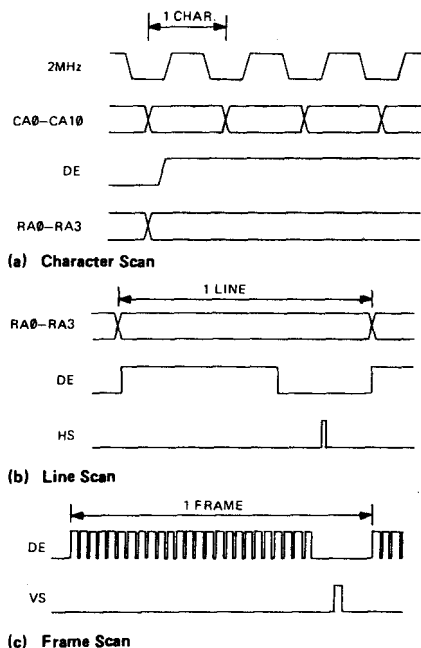

Figure 8. VDU Controller Scan Signals
The CA0—CA10 signals are connected via Multiplexers IC5, IC6 and IC7 to the RAM address inputs. The RA0—RA3 signals are connected directly to the Character Generator ROM 1013. The RA0—RA3 signals are all set to '0' at the beginning of the first scan line of a character row. The CA0—CA10 signals are set to the first character address in the row and then incremented at 2MHz, until the last character address in the row is reached. The Data Enable (DE) signal is set high during this time. Refer to timing diagram, Figure 8.